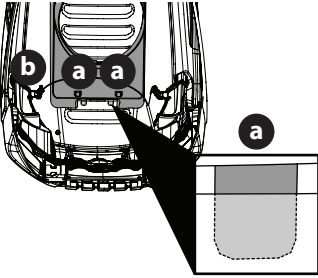

Fig. 11
- With the rear tabs installed, insert the front tabs (a) on the plenum (b) (Fig. 11).